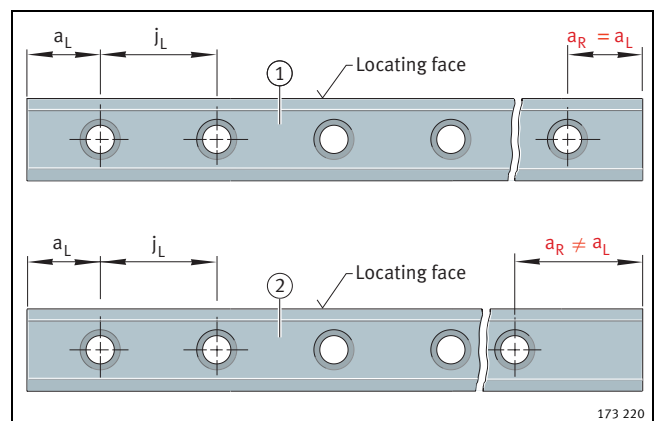

Figure 4 • Symmetrical ① and asymmetrical ② hole patterns for guideways with one row of holes
- $a_L \geq a_{L\min}$  and  $a_R \geq a_{R\min}$  (Figure 4).